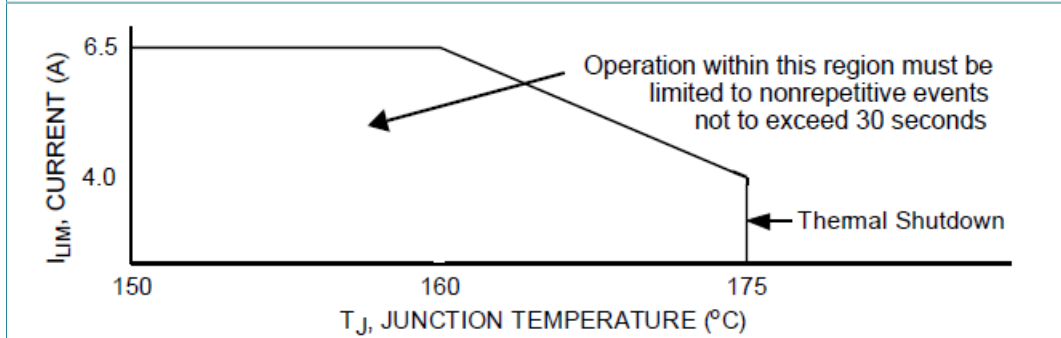
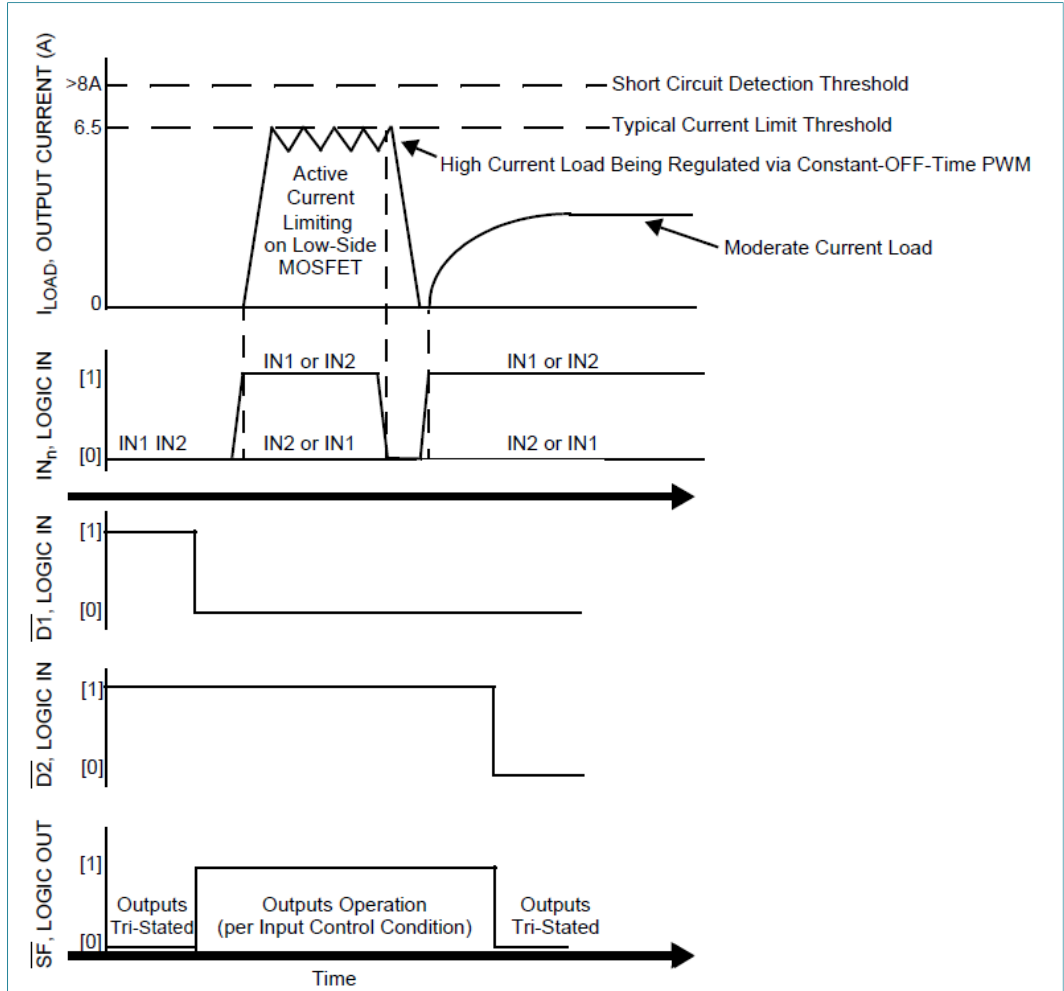
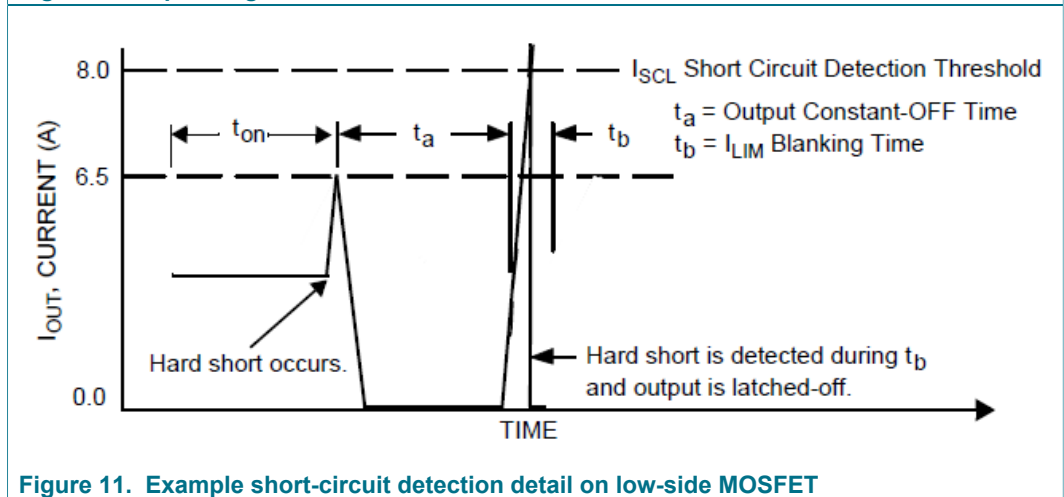

Figure 9. Active current limiting versus temperature (typical)
Figure 10. Operating states
Figure 11. Example short-circuit detection detail on low-side MOSFET
- [5] Load currents ramping up to the current regulation threshold become limited at the I_{LIM} value. The short-circuit current possess a di/dt that ramps up to the I_{SCH} or I_{SCL} threshold during the I_{LIM} blanking time, registering as a short-circuit event detection and causing the shutdown circuitry to force the output into an immediate 3-state latch OFF. See Figure 10 and Figure 11. Operation in current limit mode may cause junction temperatures to rise. Junction temperatures above $\sim 160\text{ }^\circ\text{C}$ causes the output current limit threshold to progressively foldback, or decrease with temperature, until $\sim 175\text{ }^\circ\text{C}$ is reached, after which the T_{LIM} thermal latch OFF occurs. Permissible operation within this foldback region is limited to nonrepetitive transient events of duration not to exceed 30 seconds. See Figure 9.
A disable timer (time t_b) used to detect currents that are higher than current limit is activated at each output activation to facilitate hard short detection (see Figure 11).
The maximum current flow under normal operating conditions is internally limited to I_{LIM} (5.2 A to 7.8 A). When the maximum current value is reached, the output stages are 3-stated for a fixed time (t_a) of 20 μ s typical. Depending on the time constant associated with the load characteristics, the current decreases during the 3-state duration until the next output ON cycle occurs (see Figure 11 and Figure 14).
The current limiting threshold value is dependent upon the device junction temperature. When $-40\text{ }^{\circ}\text{C} \leq T_J \leq 160\text{ }^{\circ}\text{C}$, I_{LIM} is between 5.2 A to 7.8 A. When T_J exceeds 160 °C, the I_{LIM} current decreases linearly down to 4.0 A typical at 175 °C. Above 175 °C the device overtemperature circuit detects T_{LIM} and overtemperature shutdown occurs (see Figure 9). This feature allows the device to remain operational for a longer time but at a regressing output performance level at junction temperatures above 160 °C.